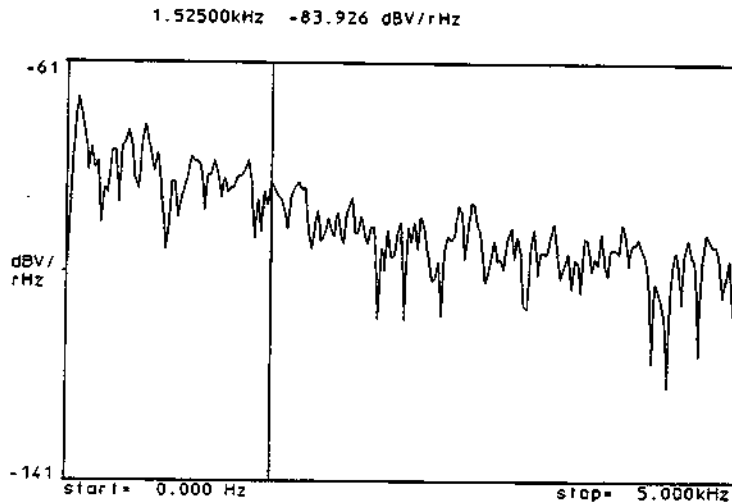

Figure 5-31.
5. Press any hardkey to exit the menu and note the marker amplitude readout. The display should look similar to figure 5-31.